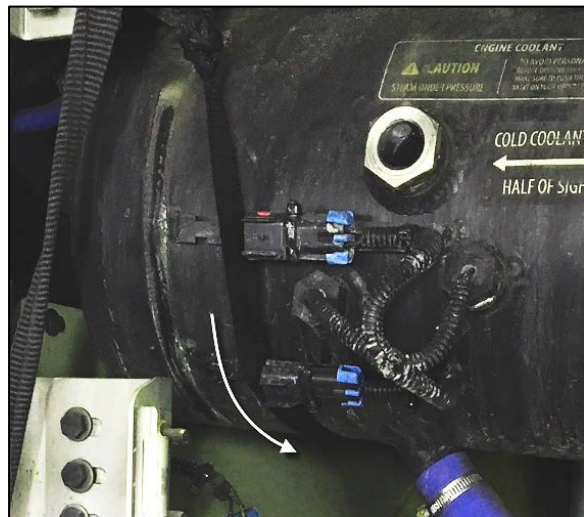

Figure 8
- Route the strap under the surge tank (Figure 8).